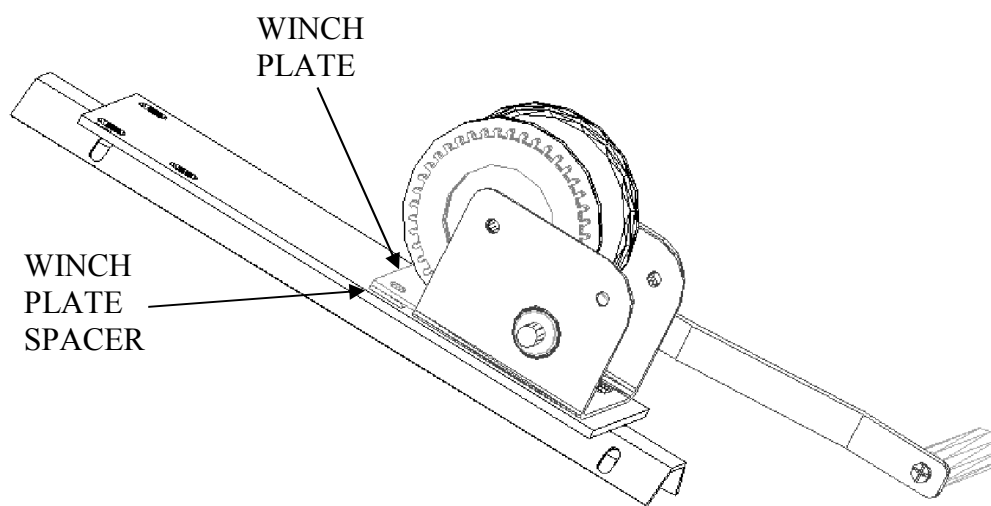

Figure 2 – Winch Mounted on Winch Plate Bracket
- The winch plate (item 15) is attached to the middle pair of holes in the winch mounting bracket, by sandwiching the winch plate spacer (item 16) beneath and securing with $3/8'' \times 1 1/4''$ hex bolts and hardware (items 23, 24, 25). The portion of the winch plate (item 15) without holes should be downward, with the space beneath permitting the winch to slide into it securely. The winch is attached with its handle to the right with $3/8'' \times 1 1/4''$ hex bolts and hardware (items 23, 24, 25) through the bottom two holes. Read the instructions attached with the winch in order to complete its installation. See Figure 2.